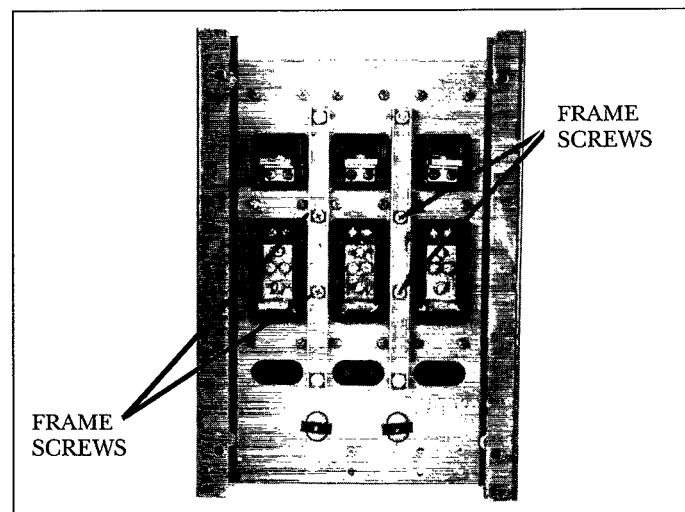

Fig. 13. Rejoining the Front and Back Frames
The front and back breaker frames can now be rejoined. Use the (4) Philip's head screws removed in Step 4 on page 5 (See Fig. 13). Make sure that the frames are properly aligned while inserting the screws.